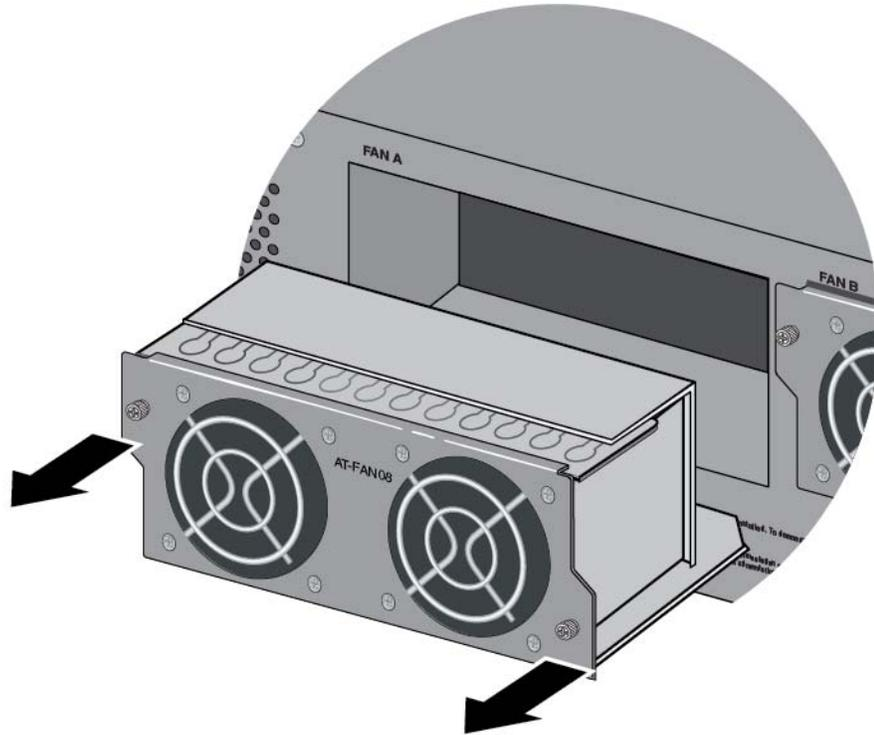

Figure 128. Disconnecting the FAN08 Module from the Chassis
2. Carefully pull on the screws on the faceplate to disconnect the line card from the connector on the backplane in the chassis. Refer to Figure 128 on page 210.